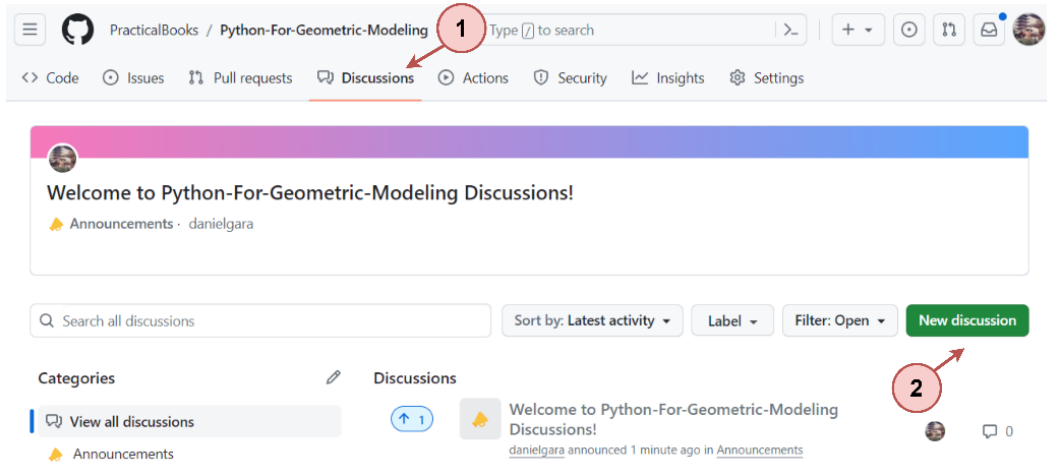

Figure 1-1. Discussion area of the book's repository.
If you have any questions or would like to discuss any aspect of this book, we recommend using the discussion area of the book repository, located at <https://github.com/PracticalBooks/Python-For-Geometric-Modeling/discussions> (see Figure 1-1). This platform allows you to learn from the questions and discussions posted by other readers ①, while also enabling you to seek help and interact with the book’s authors and community. With input and contributions from various members, the discussion area can provide a collaborative and enriched learning experience. Please note that you need a GitHub account to access the “New discussion” button ②.